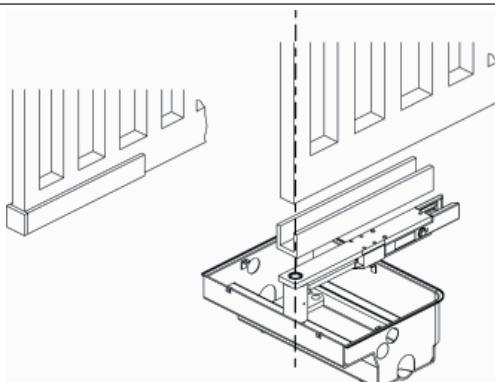

Fig. 10a
- ascertain the correct location of the leaf on the "U" profile with reference to the axis of rotation (Fig. 10a or 10b) : seal the "U" profile on the post side with a plate, as shown in Fig. 10a or 10b.